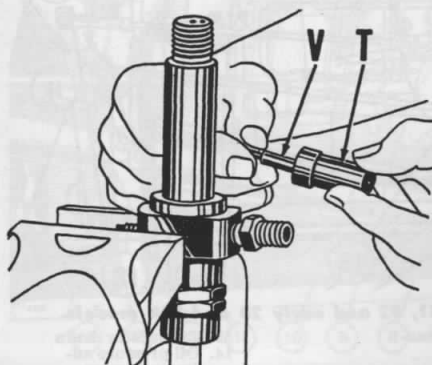

Fig. MH198—Removing Massey-Harris Diesel engine spray nozzle tip (T) and the valve (V).
Carefully clamp nozzle holder in vise and remove the nozzle cap nut as shown in Fig. MH198 and remove the spray nozzle consisting of the body or tip (T) and the valve (V). Soak the nozzle in fuel oil, acetone, carbon-tetrachloride or similar carbon solvent being careful not to permit any of the polished surfaces of valve or tip to come into contact with any hard substance.